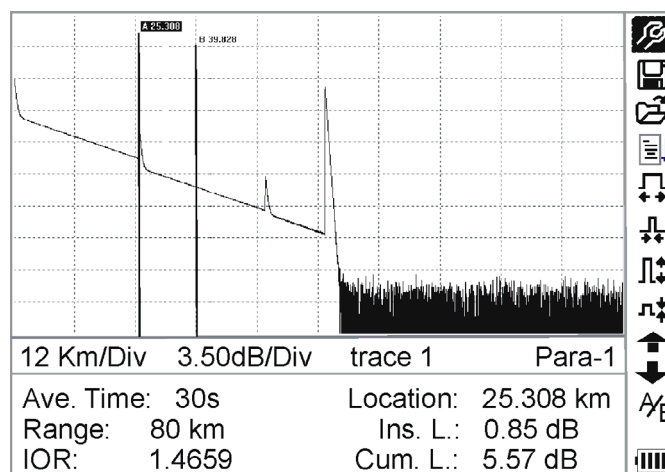

Figure 37.- Trace Measurement of PROLITE-50/51/52
- 3 After a certain period of time, the trace displays on the **GUI**. The trace in the Figure below is a trace during measurement, which will be refreshed for every certain period of time to demonstrate the whole process to users in real time. But at the end of measurement, the trace will be final, as shown in figure 37.
Under **GUI** of figure 37, press  and the items of information window will display in circulation: measurement parameter → analysis information → Event list → information of marker A/B → measurement parameter
Under **GUI** of figure 37, press , items in information window will switch to event list information.